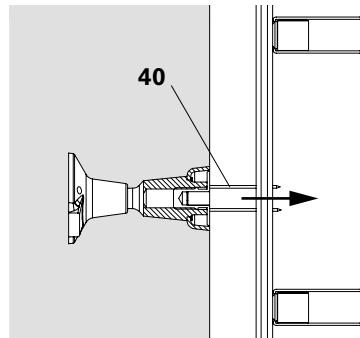

Fig. B1.13
- When retracting the formwork, the wire nails (40) must be pulled through the formlining. (Fig. B1.13)